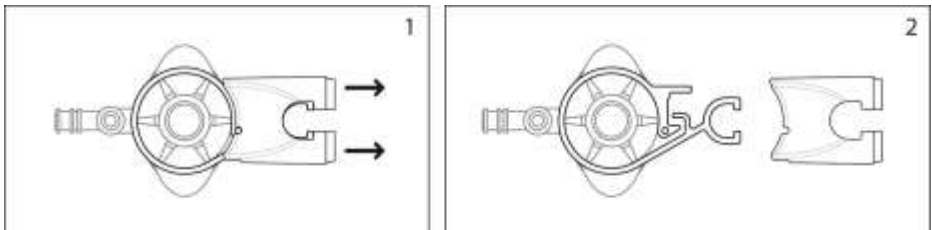

Figure 15
(N) First pull off clamp base (see Figure 15) and then remove the trocar from the ball clamp.